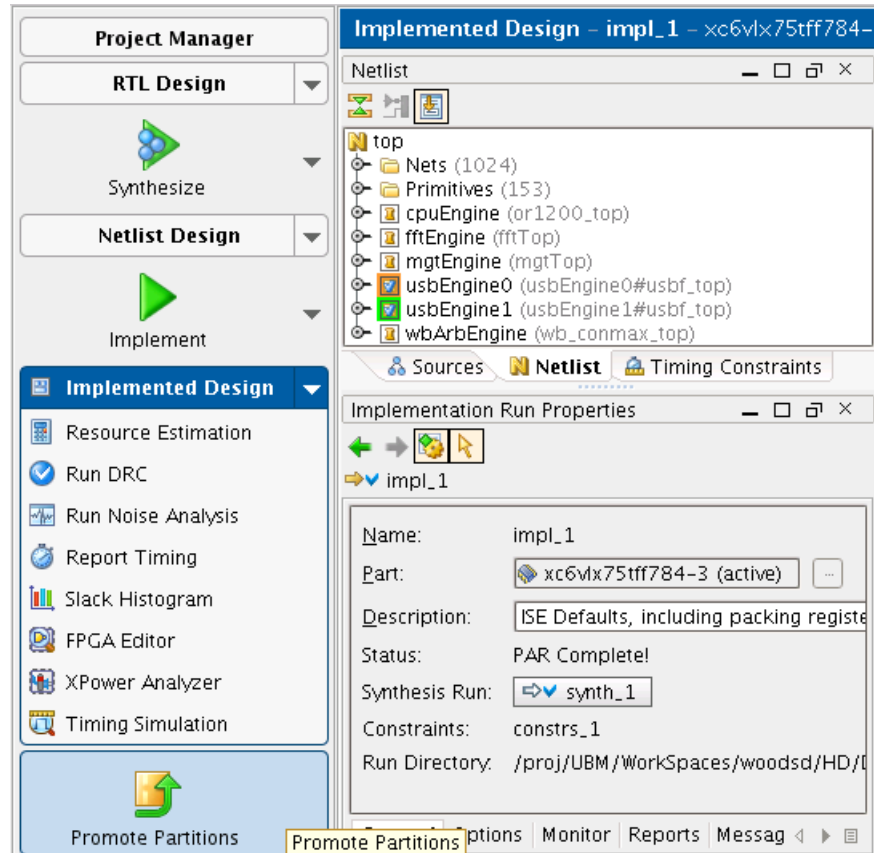

Figure 1-11: Promote Partitions
- In the Flow Navigator, click **Promote Partitions** to promote the synthesis and implementation results (Figure 1-11).